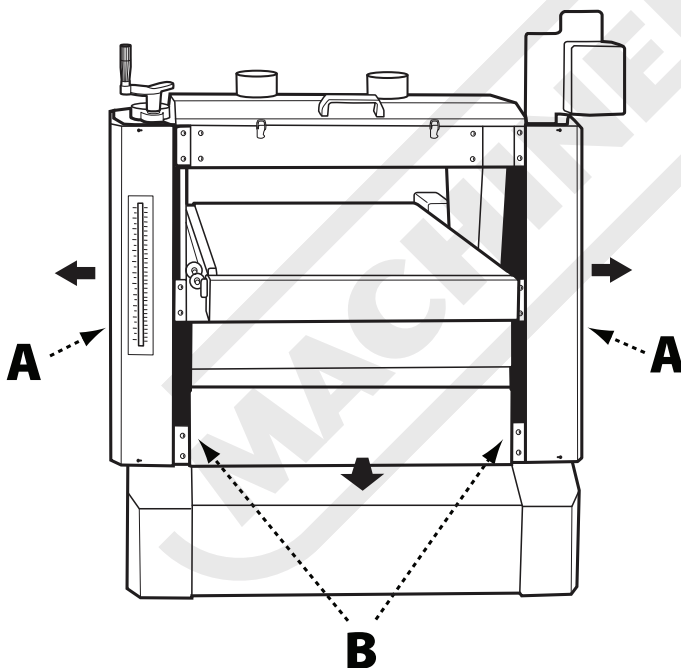

FIG. 6
2. Remove the eight Phillips head bolts and washers securing the left and right side guards (A) to the machine and remove the guards. See Fig. 6.